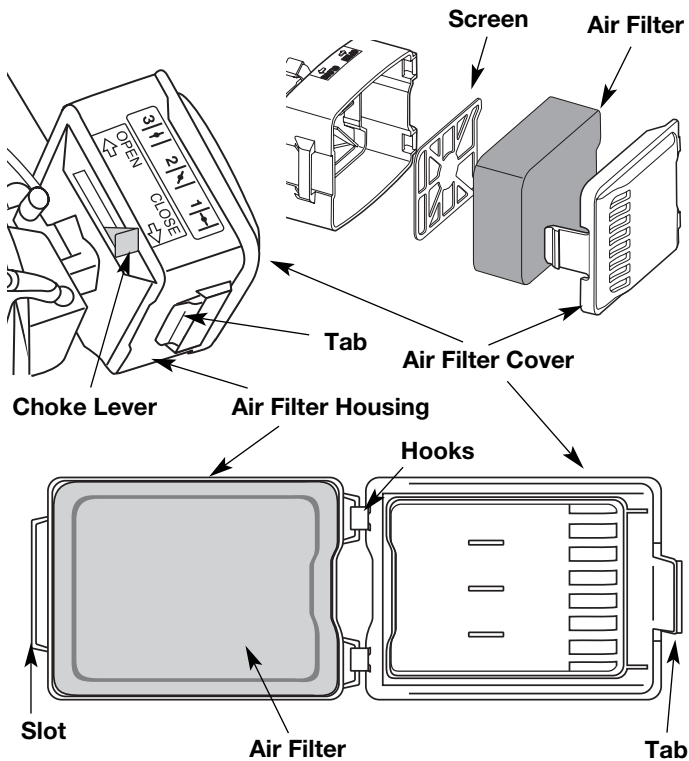

Fig. 19
1. Open the air filter cover. Push the tab on the left side of the cover in, swing the air filter cover out and off the air filter housing (Fig. 19).
2. Remove the air filter and the screen that sits behind it (Fig. 19).
6. Replace the filter (Fig. 19).